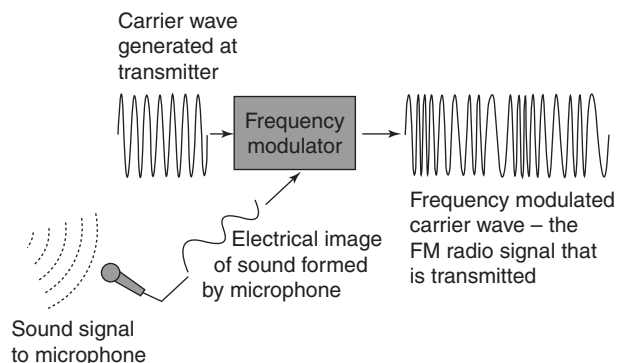

Figure 6-2 *FM modulation*
Frequency modulation (FM) is a form of modulation which represents information as variations in the instantaneous frequency of a carrier wave. Contrast this with amplitude modulation, in which the amplitude of the carrier is varied while its frequency remains constant. In analog applications, the carrier frequency is varied in direct proportion to changes in the amplitude of an input signal. Digital data can be represented by shifting the carrier frequency among a set of discrete values, a technique known as frequency-shift keying. The diagram in Figure 6-2 illustrates the FM modulation scheme, the RF frequency is varied with the sound input rather than the amplitude.